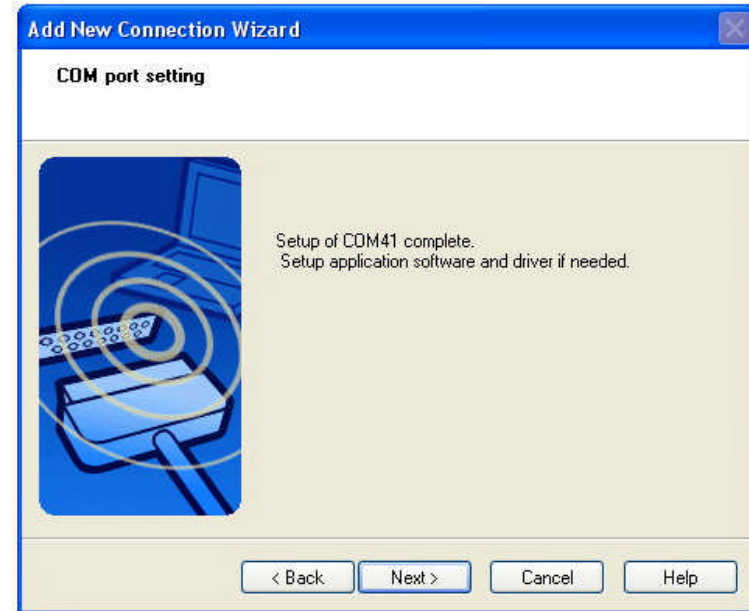

Figure 3.7: COM port setting
- f. Click the “Next” button (Figure 3.7)